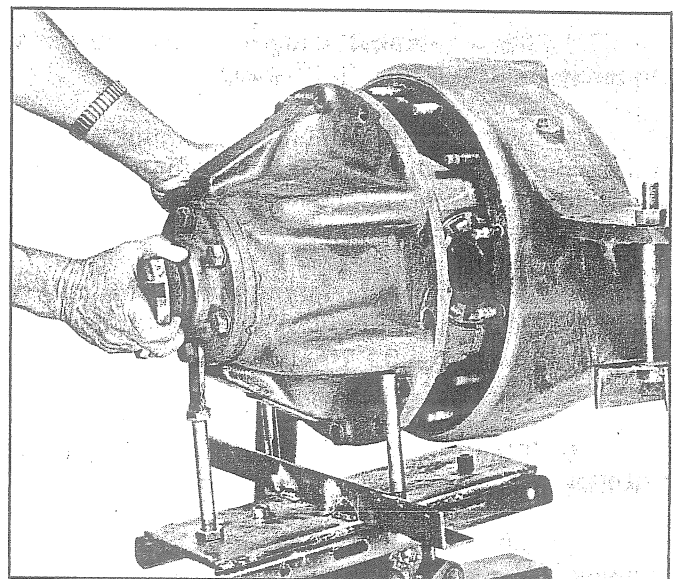

Fig. 20 - Removing Differential Assembly
- b. If the axle housing is in a normally mounted position (such as when mounted in the unit) attach a suitable pad to the differential assembly and to a rolling floor jack, remove retaining nuts and roll differential assembly straight out from axle housing, as shown in Fig. 20.
2. Align differential assembly to axle housing as shown in Fig. 20. Secure differential assembly to axle housing with retaining nuts. Tighten to 50-55 ft.-lbs. torque.